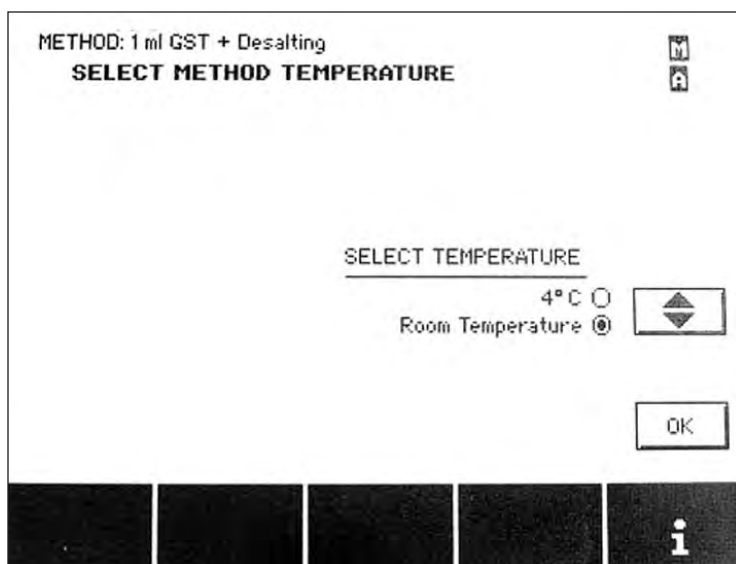

Fig. 6.1. Select Method Temperature screen.
2. Touch the arrow buttons to navigate the list of system utilities; highlight “Select Method Temperature” then touch Select to display the Select Method Temperature screen (Figure 6.1).